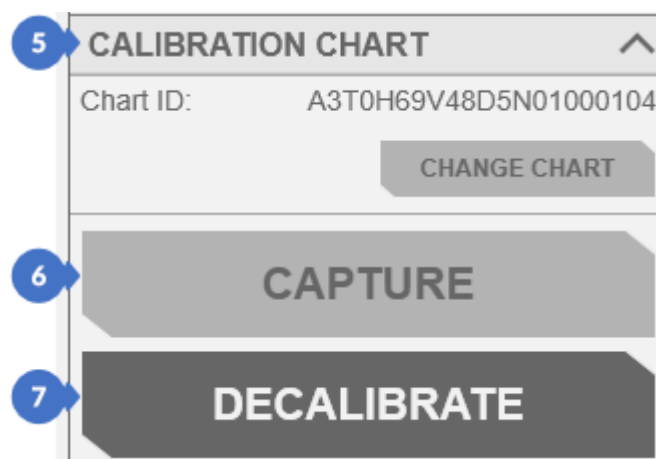

Figure 136. Calibration panel – after calibration
After the calibration is performed, the **CHANGE CHART** button located in the **CALIBRATION CHART** (5) (Figure 136), as well as the **CAPTURE** button (6), will become inactive, and the **CALIBRATE** button itself will change its name to **DECALIBRATE** (7). By clicking **DECALIBRATE**, the calibration for a given scanner is deleted, but it will not delete the previously taken photos, so it is possible to add the missing ones and re-calibrate by pressing the **CALIBRATE** button (7).